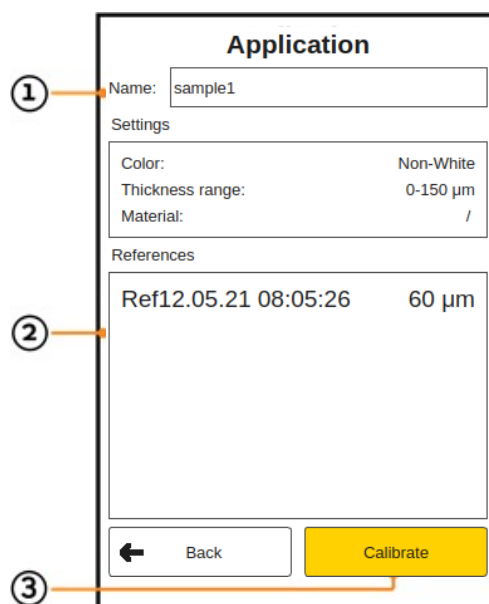

Figure 39: Calibration menu
The screen in Figure 39: Calibration menu shows the different fields of the calibration menu:
Once all settings for the new application are established, navigate with the arrow keys **Ⓐ** to the 'Calibrate' field **③** (see Figure 39: Calibration menu).